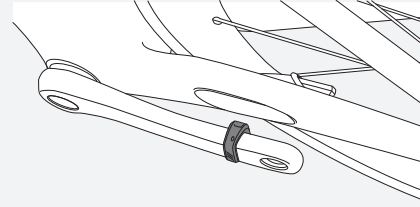

Figure 30. Crank Magnet on Crank Arm.
2. Slide the cadence magnet (Figure 30) onto the crankarm with the magnet to the inside.